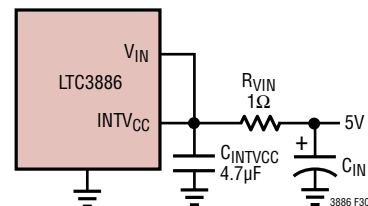

Figure 30. Setup for a 5V Input
For applications where VIN is 5V, tie the VIN and INTVCC pins together and tie the combined pins to the 5V input with a 1Ω or 2.2Ω resistor as shown in Figure 30. To minimize the voltage drop caused by the gate charge current a low ESR capacitor must be connected to the VIN/INTVCC pins. This configuration will override the INTVCC linear regulator and will prevent INTVCC from dropping too low. Make sure the INTVCC voltage exceeds the RDS(ON) test voltage for the MOSFETs which is typically 4.5V for logic level devices. The UVLO on INTVCC is set to approximately 4V.